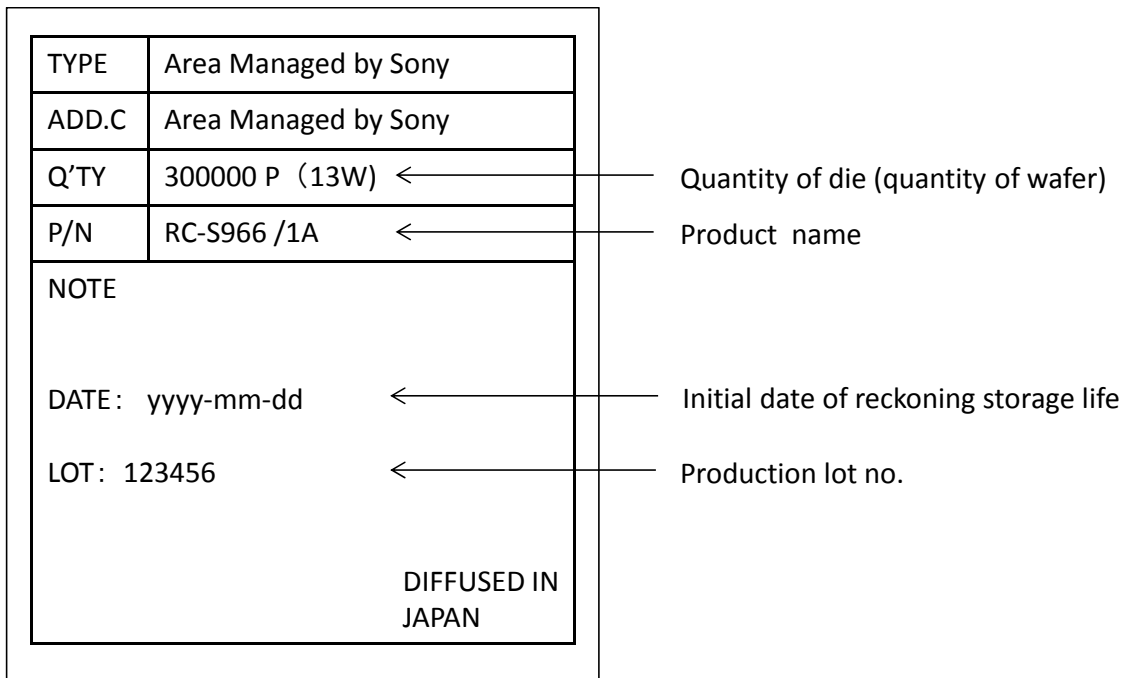

Figure 7-4: Wafer container label (example)
- 2) Wafer container label (See Figure 7-4) is attached to the side of the wafer container.